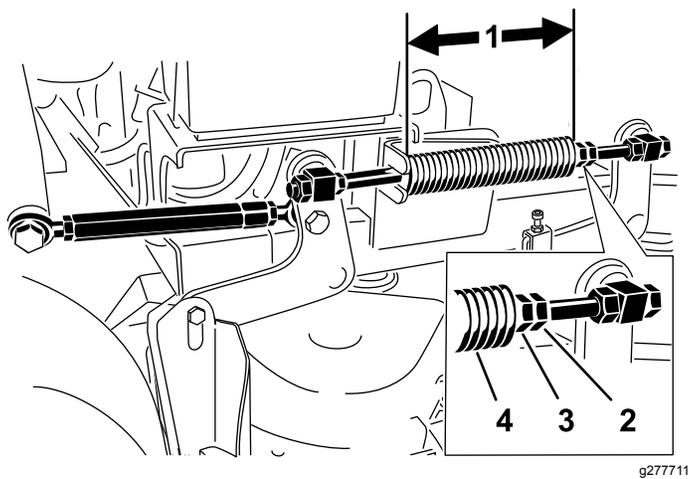

Figure 84
Note: Nominal length is 28.2 cm (11-1/8 inches) for 91 cm (36 inch) mower decks and 25.7 cm (10-1/8 inches) for 102 cm (40 inch) mower decks (Figure 84).
3. Adjust this distance by loosening the spring-jam nut and turning the nut in front of each spring (Figure 84).
4. Lock the nut into position by tightening the spring-jam nut (Figure 84).